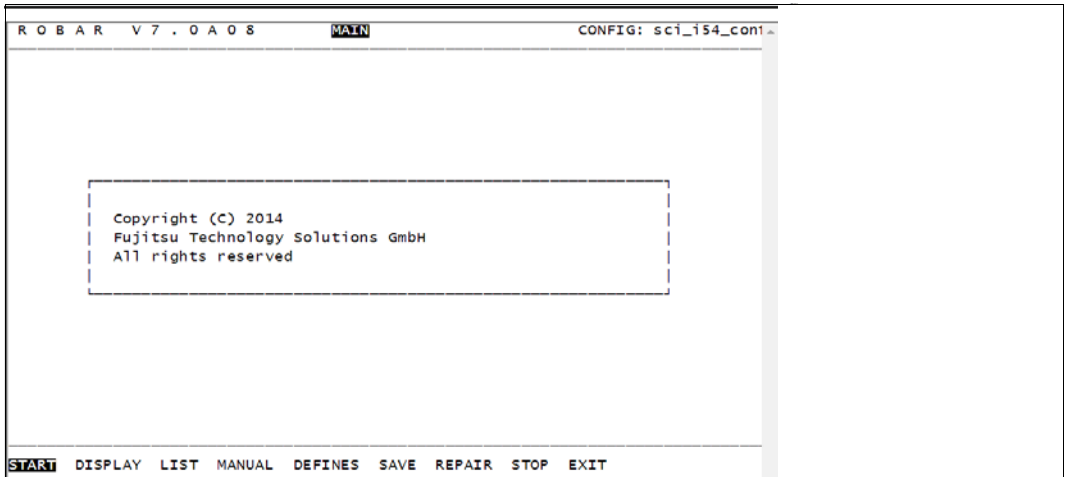

Figure 14: Main menu
- The first ROBAR administrator (member of the `robaradm` and `robarsv` user groups) who calls the menu program is granted the complete and unrestricted range of functions (see figure 14 on page 179).